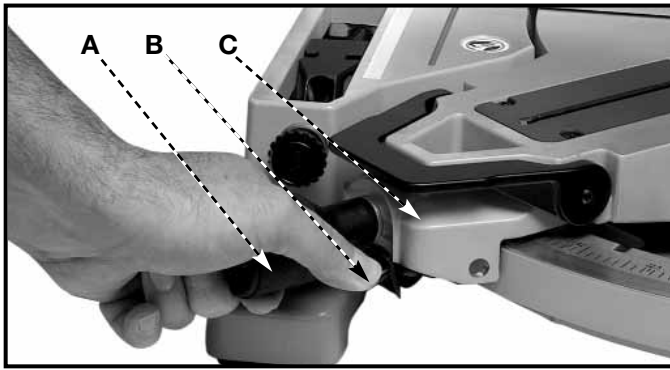

Fig. 5
1. Rotate the locking knob (A) Fig. 5 counter-clockwise as far as it will go. Depress the lever (B) and rotate the table (C) to the 0° straight cut-off position, release the lever (B), and tighten the locking knob (A).